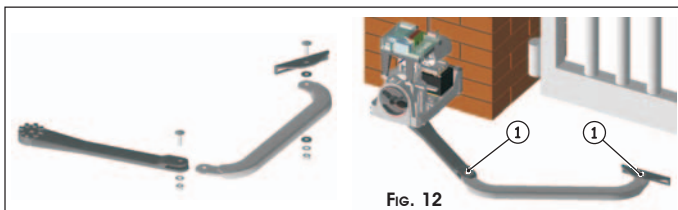

Fig. 12
- ⑦ Assemble the rest of the arm as illustrated in Fig.12.
For correct operation, tighten the two securing screws (Fig.12 ref.①) and then loosen them by about 1/2 turn to enable rotation without any friction on the arms.